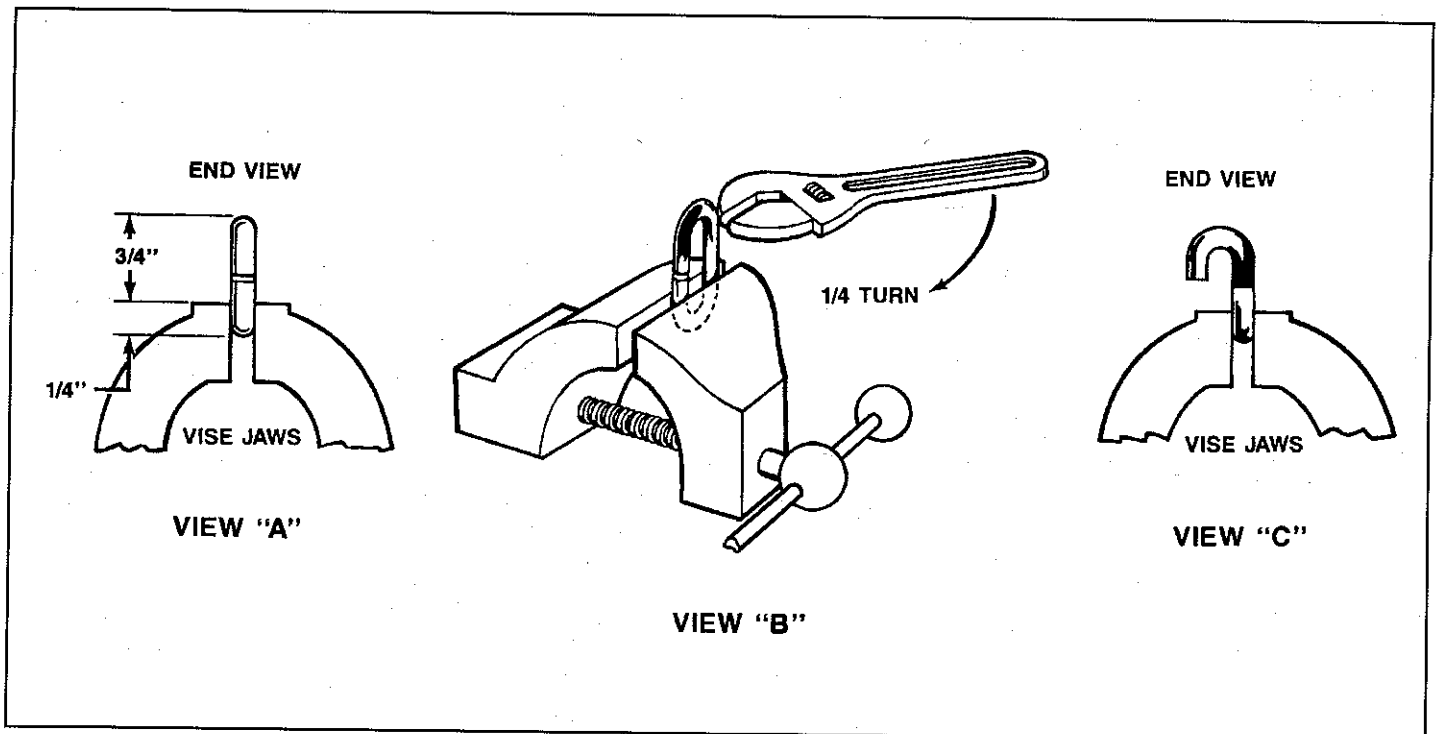

Figure 2-2. Opening Split Connecting Link
a. Insert split connecting link in a vise so that three-quarters of the link is above the top of the vise jaws as shown in Figure 2-2, View "A" (an adjustable wrench may be used in place of vise if preferred).
b. Place wrench on top part of link, tighten jaws. Then twist link open wide enough to insert ends of chain to be joined. See Figure 2-2, View "B".